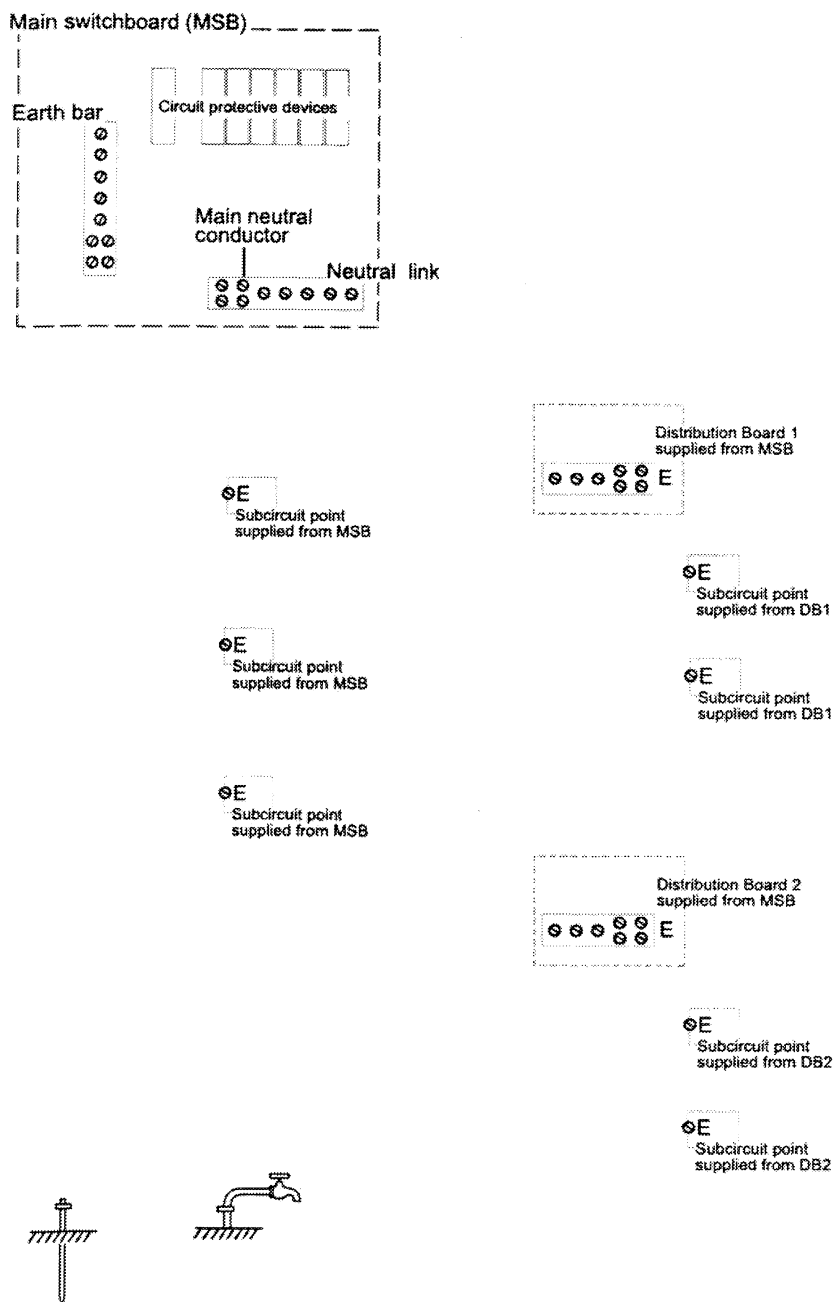

Figure 3.1 Earthing arrangements 1
1. In the electrical installation represented in Figure 3.1 show an acceptable arrangement of earthing by drawing the necessary protective earthing and equipotential bonding conductors and writing on each conductor the compliant Clause No.